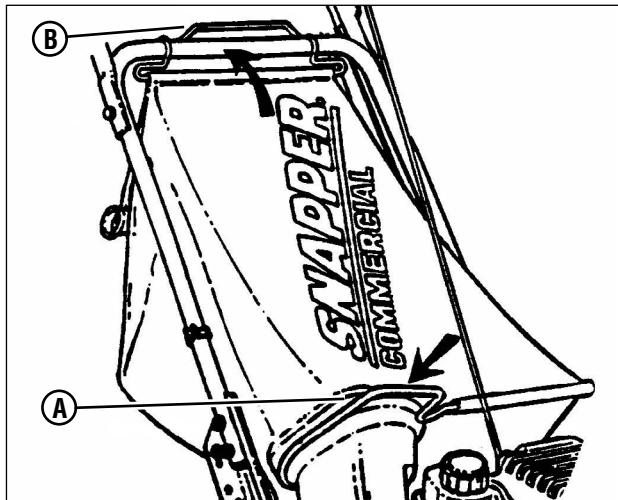

Figure 14: Installing the grass bag
2. Install the grass bag by sliding the connector **(A, Figure 14)** over the adapter flange.